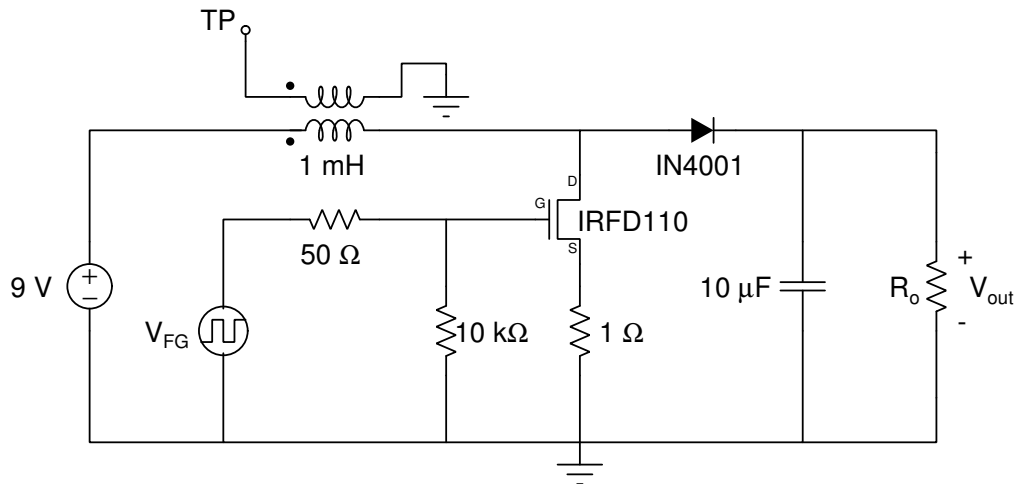

Figure 5: Boost circuit.
Build and test the boost-circuit. The schematic is shown in Figure 5. A MOSFET transistor (IRFD110) is used as a solid-state voltage-controlled switch. You will determine the voltage  $V_{GS}$  needed to control this switch in lab.
1. Build the boost-circuit shown in Figure 5 but do not apply the 9 volt power supply.